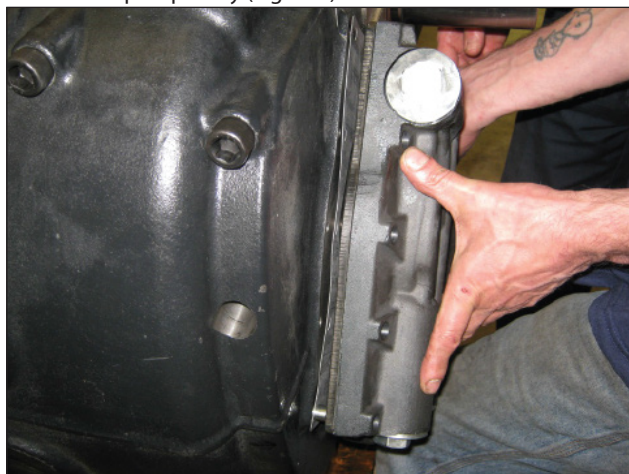

Fig. 127
Tighten the pump body by means of the M8 screws (pos. ①, Fig. 127) and calibrate them with a torque wrench as described in heading 3.